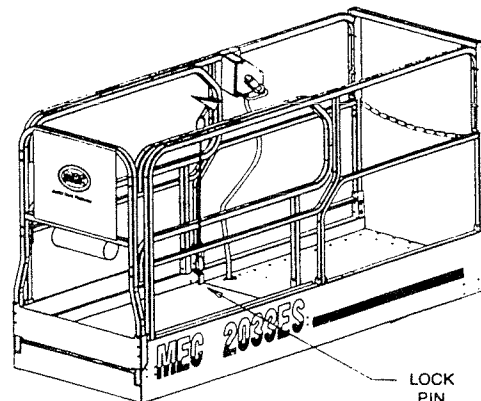

Figure 3-5. Platform Lock Pins
1. With your right hand, squeeze handle and hold (Figure 3-5) so pin disengages from locking holes in platform.